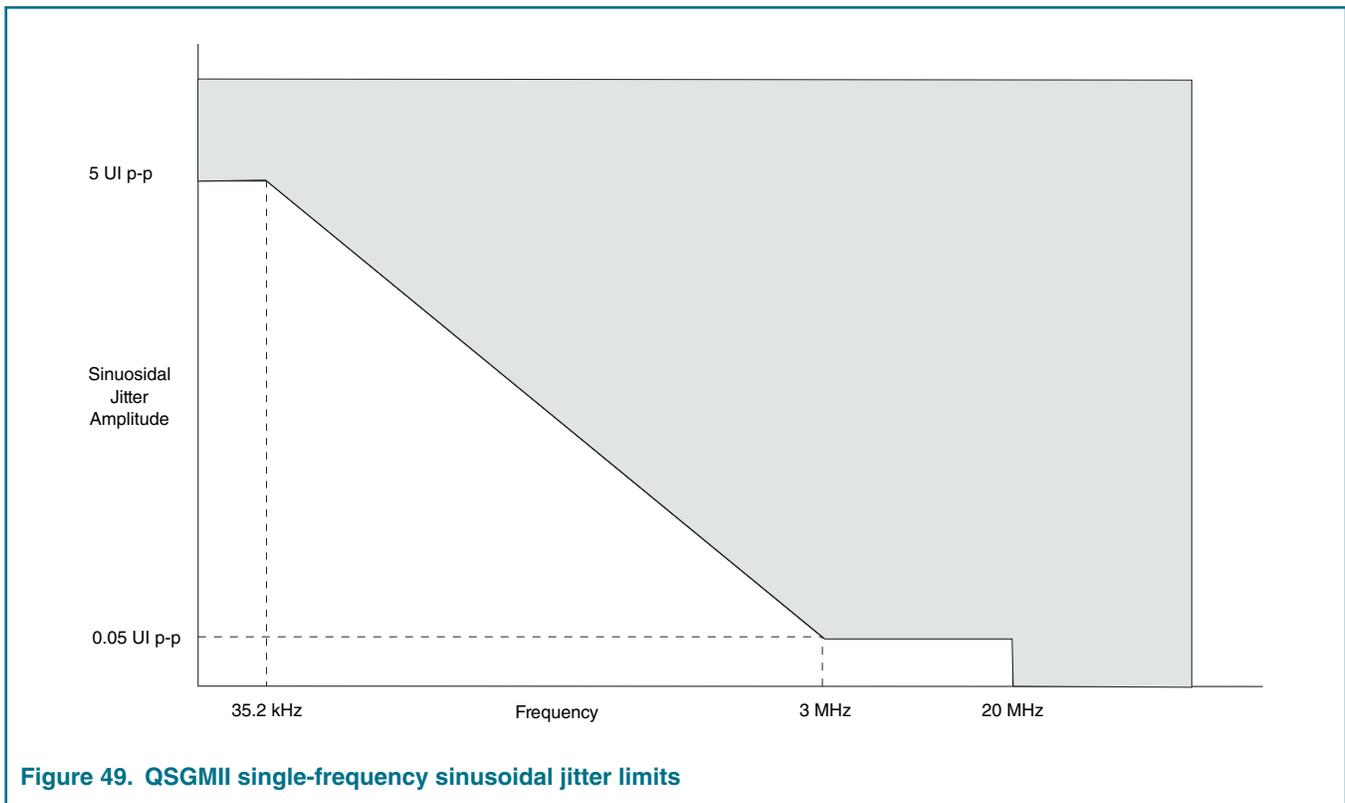

Figure 49. QSGMII single-frequency sinusoidal jitter limits
2. See Figure 49. on page 146.